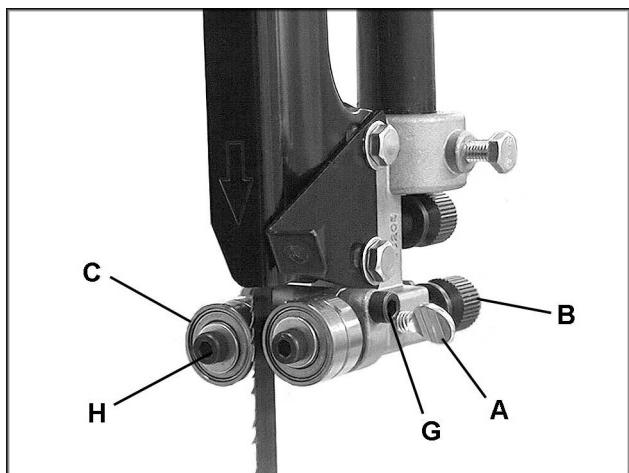

Fig. 27
3. Loosen thumb screw (A, Fig. 27) and move guide block by turning knob (B, Fig. 27) so that the front of the guide wheels (C, Fig. 27) are just behind the gullet (curved area at base of tooth) of the blade.
4. Tighten thumb screw (A, Fig. 27).
7. Loosen the cap screw (G, Fig. 27) and turn the screw on each guide wheel (H, Fig. 27) to move the guide wheels $1/64"$ from the blade. Tighten cap screw (G, Fig. 27) when finished.
7. Loosen the cap screw (G, Fig. 27) and turn the screw on each guide wheel (H, Fig. 27) to move the guide wheels approximately 1/64" from the blade. Tighten cap screw (G, Fig. 27) when finished.